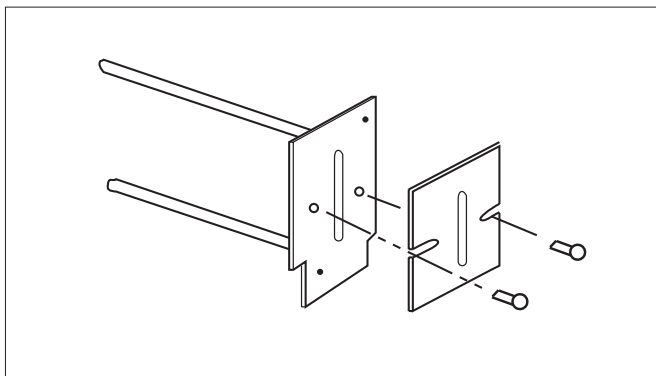

Figure 8. Light Aperture Adjustment
- Turn on the Light Source and allow it to warm up for five minutes. Check the alignment of the Light Source and the Aperture by looking at the light shining on the back of the Lens/Grating assembly. If necessary, adjust the back plate of the Light Aperture Assembly by loosening the two retaining screws (Figure 8) and sliding the aperture plate left or right until the light shines directly on the center of the Lens/Grating Assembly.